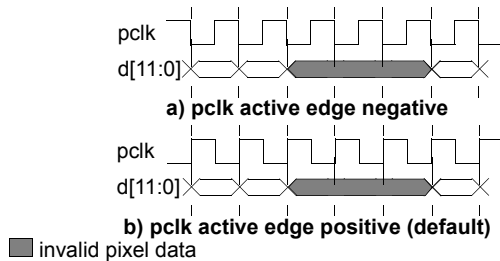

Figure 37. *clk* in Free Running Mode
- In free running mode the pixel clock output pin, *clk*, is always running with a fixed period. Pixel data appearing on the digital video bus $d[11:0]$ are synchronized to a specified active edge of the clock as shown in Figure 37.